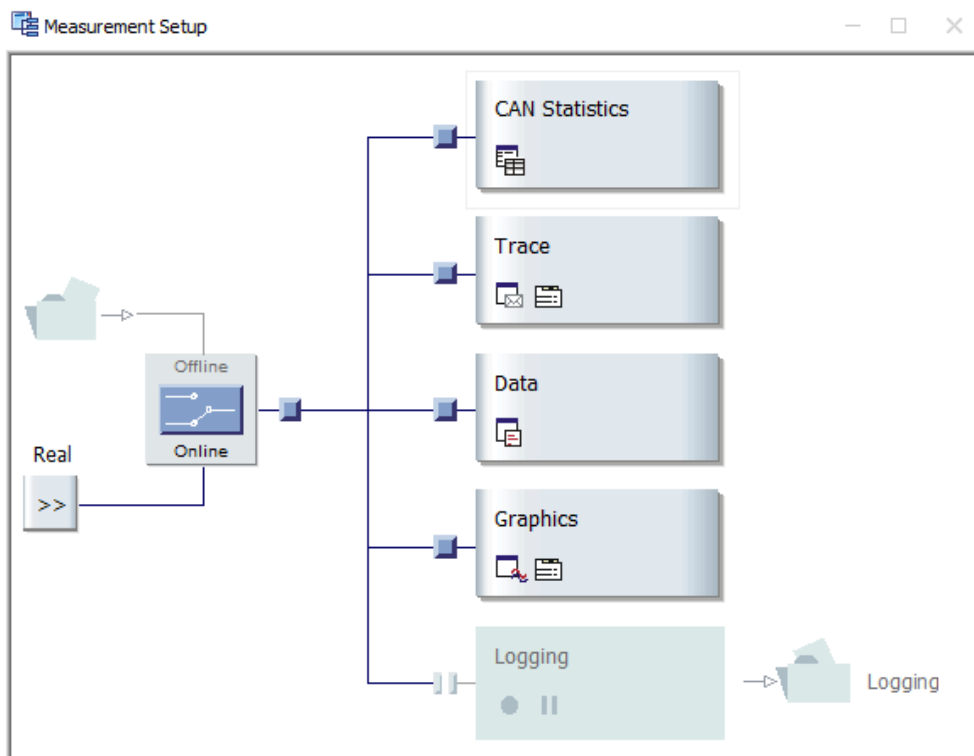

Figure 16: CANoe Measurement Setup Window.
1. **Measurement Setup:** This setup gives you the opportunity to access tools to see the statistics of the measurement or the involved data (see a detailed view in Fig. 16). It also offers the possibility to plot them in a live view. These tools will be further examined in the next subsection. Using the switch in the center, you can choose between taking the real data from the bus into account or doing a completely virtual simulation with logged data from a previous measurement. The latter one is useful to analyze and repeat certain situations.